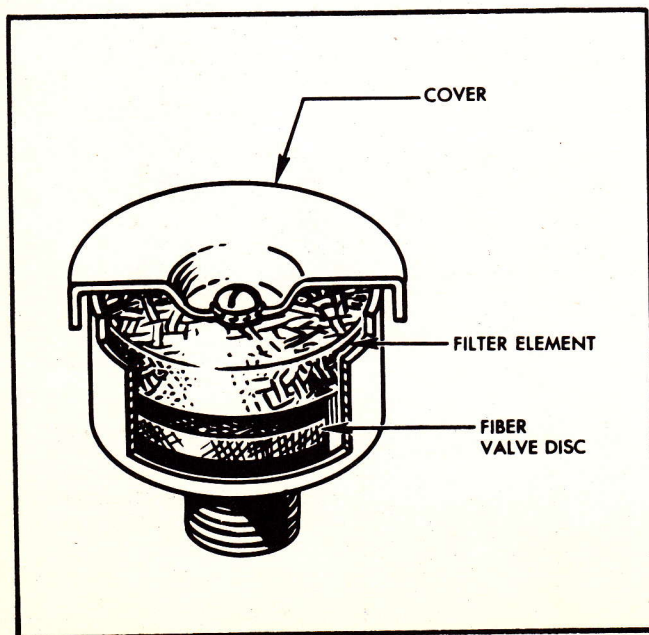

Figure No. 6
3. Check the aluminum filter in the breather assembly (See Figure No. 6) after every twenty-five hours of operation at the most. It must be functioning properly to assure maintenance of proper vacuum in the crankcase. (See Service Procedures.)